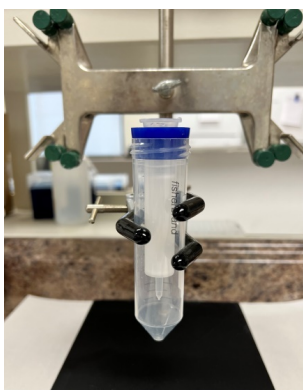

Figure 2. Sample Application.
- Remove the buffer reservoir and place the column in a 50 mL centrifuge tube with a spin adapter (**Figure 2**).